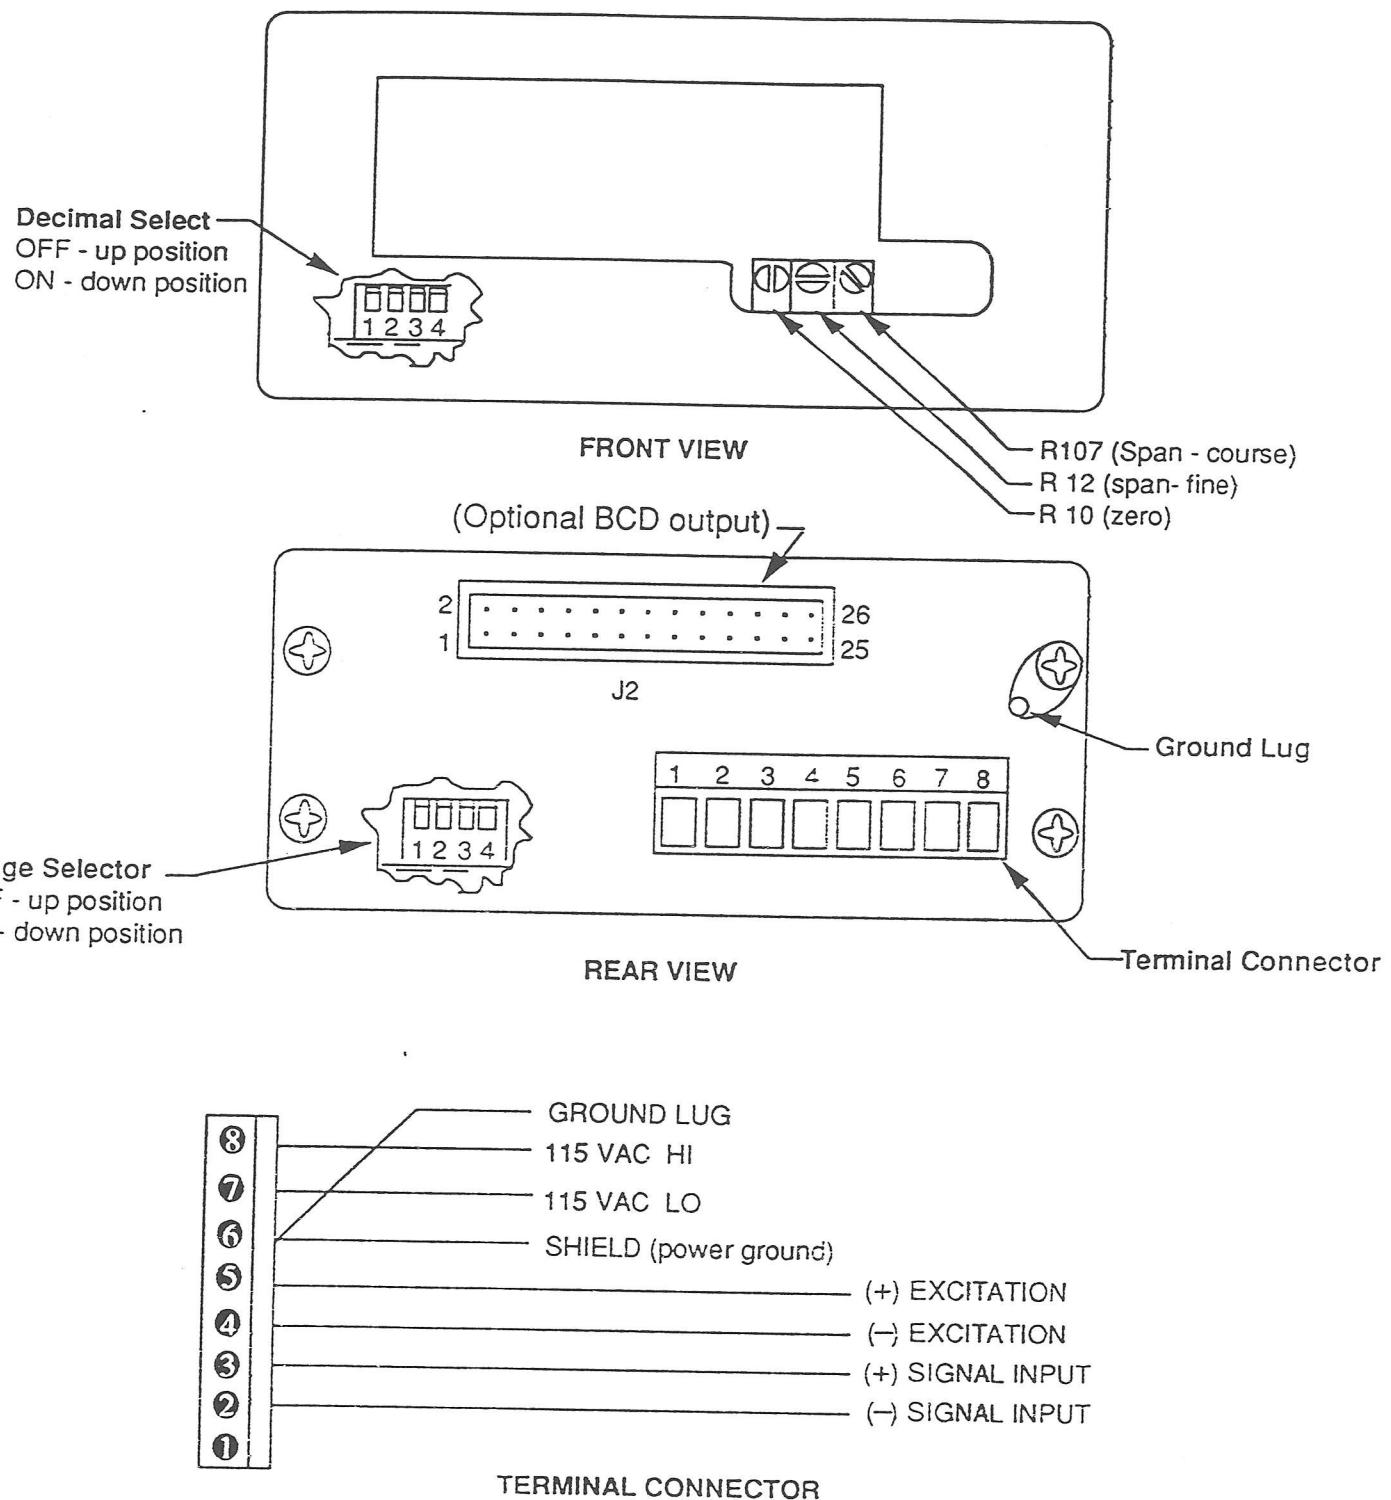

Figure 5 Meter Adjustments (remove manometer faceplate to access)
- b) With the appropriate pressure applied to the system, adjust the Manometer zero control located on the front panel to obtain 0.000 VDC analog output. If the digital readout does not display the corresponding pressure (usually 0000, with the decimal point in its fixed location), pry off the front panel of the case. Use a small screwdriver to adjust the meter zero control located in the lower right-hand corner of the LED Display (see Fig. 5) until the correct pressure reading is obtained on the meter display.
The zero and sensitivity adjustment control devices referred to in the preceding sections are connected into the signal conditioning electronic circuit of the transducer and do not directly affect the zero and span accuracy of the meter. However, the adjustment procedures described in Sections 4-3 and 4-4, while primarily intended to correct for transducer offsets, also compensate for any small meter output shifts that may occur since the procedures are based on the digitally displayed measurement rather than on the analog voltage output of the transducer. Separate controls for making meter adjustments independent of the transducer are located beneath the front of the manometer case (see Fig. 5) but it is recommended that these be used only during recalibration, if at all.